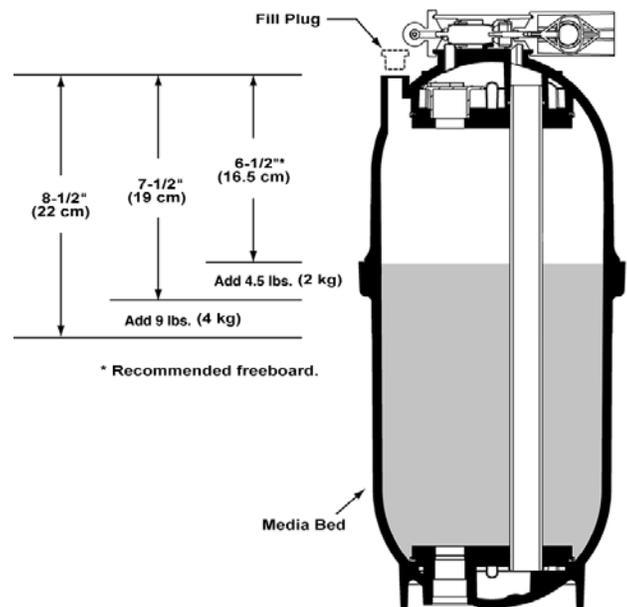

Figure 10: Maximum Freeboard Amount
- A. Measure the freeboard distance from the top of the tank to the media. See Figure 10.